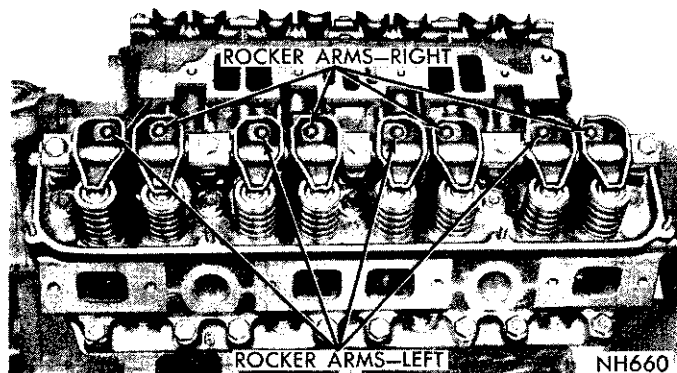

Fig. 4—Rocker Arm Assemblies Installed
- (1) Remove cylinder head cover and gasket.
- (2) Remove rocker shaft bolts and retainers and remove rocker arms and shaft assembly.
- (3) If rocker arm assemblies have been disassembled for cleaning, inspection, or replacement, refer to Figure 4 for proper reassembly.
(Fig. 4) making sure to install the long stamped steel retainers in the number two and four positions. **Tighten bolts to 25 foot-pounds.**